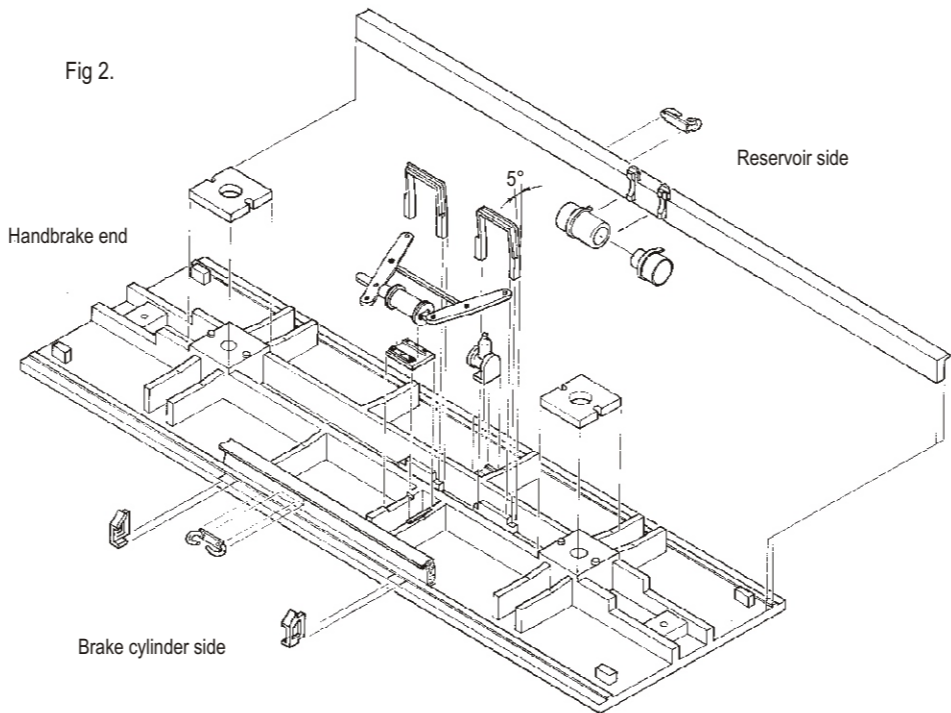

Fig 2.
While the joints of the body harden, go on with assembly of the underframe. Figure 1 shows the components to be used. Note that the floor is not symmetrical and the two side sills are different. Refer to figure 2 to ensure that the parts are orientated correctly on assembly.
The base for the brake cylinder (29) is not quite symmetrical, so make sure that it is orientated as shown on figure 2 when it is cemented to the transoms. The edge where the part was cut from the moulding fret will be faced towards the adjacent side sill. One end of the bracket should be flush with the plain transom and the other end flush with the shallow rib moulded to the tapered transom.
Carefully hold a brake lever support (25) in a pair of smooth jawed pliers and **gently** bend a small kink of about 5° halfway along each leg, as shown on figure 2. Cement the support to the centre sill, located by the lumps moulded on the inside face. Repeat for the second brake cylinder support. The brake levers should rest on the horizontal section of each support.
Cement the triple valve (18) to the support moulded on the floor, orientated as shown on figure 2.
Cement the brackets for the door pillars (19) to the floor and the adjacent side sill, located by the small ribs moulded on the floor. Note that the brackets are handed and should be orientated as shown on figure 2.
Cement a rope hitch (27) to the web of each side sill, as shown on figure 2. Note that each hitch is displaced away from the centre line towards the hand brake end.